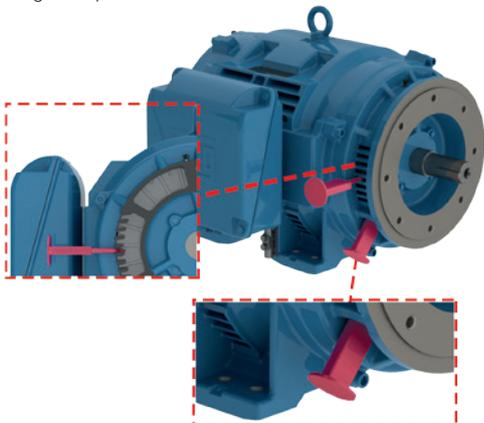

Figure 21 - IP degree of protection for the frame - first characteristic numeral - flanged.
- Second characteristic numeral 3: Machine protected against water falling as a spray at an angle up to 60 degrees from the vertical (Figure 21).